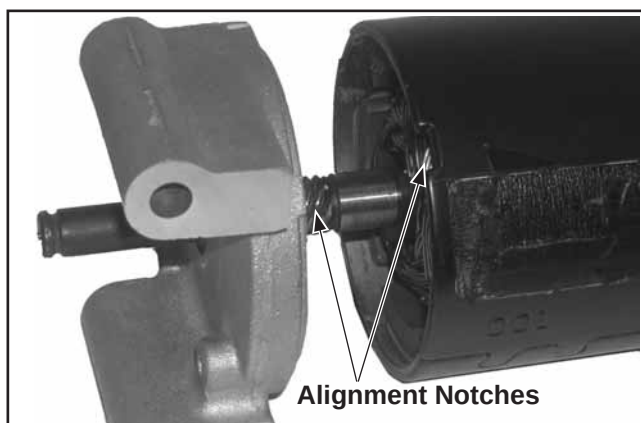

Figure 7-35. Aligning End Cap and Frame.
2. Install the drive end cap over the drive shaft and align with cutout the starter frame. See Figure 7-35.